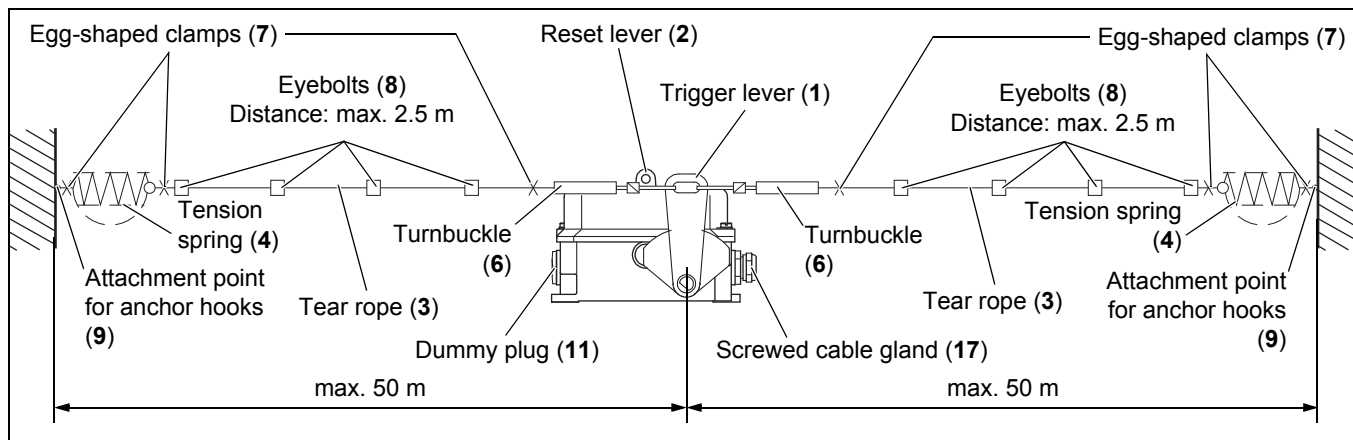

Fig. 5-2: Mounting on the conveyor structure
- The pull-rope emergency stop switch must be mounted at the midway point between the attachment points of the anchor hook (9). Deviation of up to 3 % of the distance between the pull-rope emergency stop switch and the relevant attachment point is permitted.
- The distance between the attachment points of the anchor hooks (9) must not exceed 100 m.
- The attachment points for the anchor hooks (9) must be constructed from sturdy mechanical components.
- The distance between the eyebolts (8) must not exceed 2.5 m (*see fig. 5-2*).
You will also require the following KIEPE accessories for further mounting of the pull-rope emergency stop switches on the conveyor structure *(see figures 5-2 and Section 7.2: “Ordering replacement parts and accessories”, page 34)*:
3. Place the anchor hooks (9) on the attachment points (see fig. 5-2).